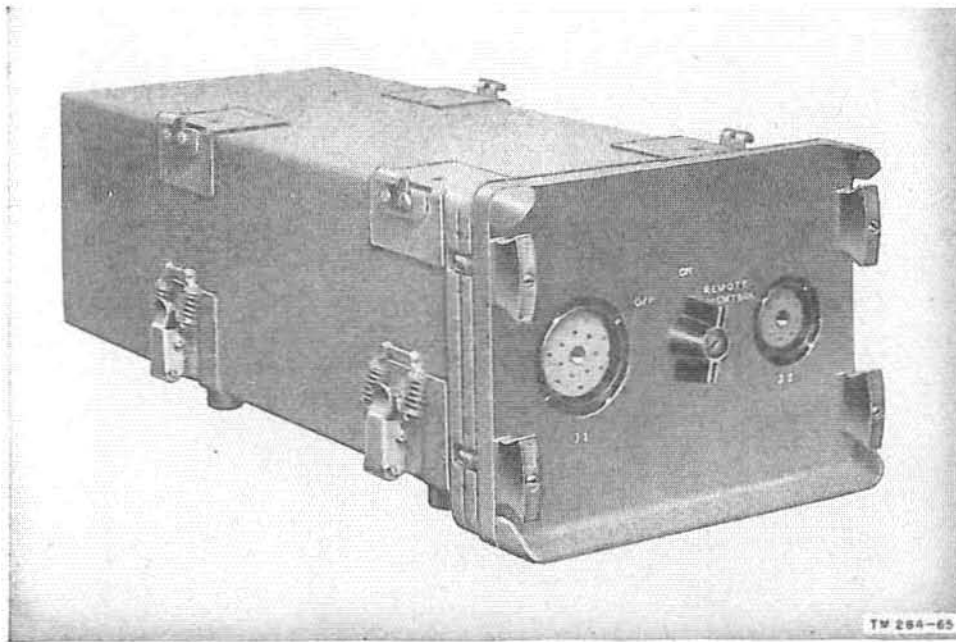

Figure 77. Case CY-590/GRC, front view.
b. CASE CY-590/GRC (fig. 77).
- (1) Case CY-590/GRC is a battery box which holds five series-connected 1.5-volt batteries (type BA-403/U) and one 90-volt battery (type BA-419/U).
- (2) Two receptacles and a switch are mounted on the front panel of the battery